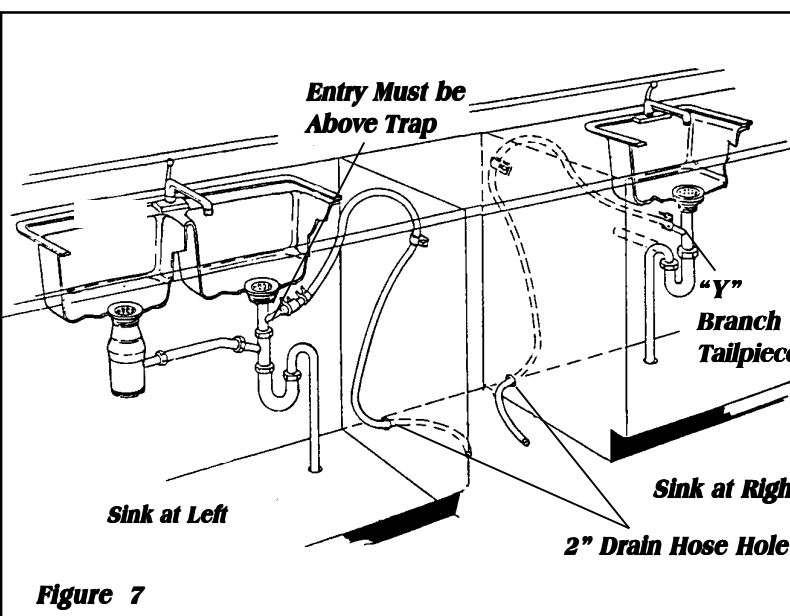

Figure 7
- Review **Figures 7, 8 and 9** to see the different ways to connect dishwasher to drain system. Choose method that best suits your need.
- If you connect to a sink drain, entry will need to be above trap. A "Y" branch tailpiece and connector kit, not included, will make this method easier and includes all needed fittings and instructions. **See Figure 7.**